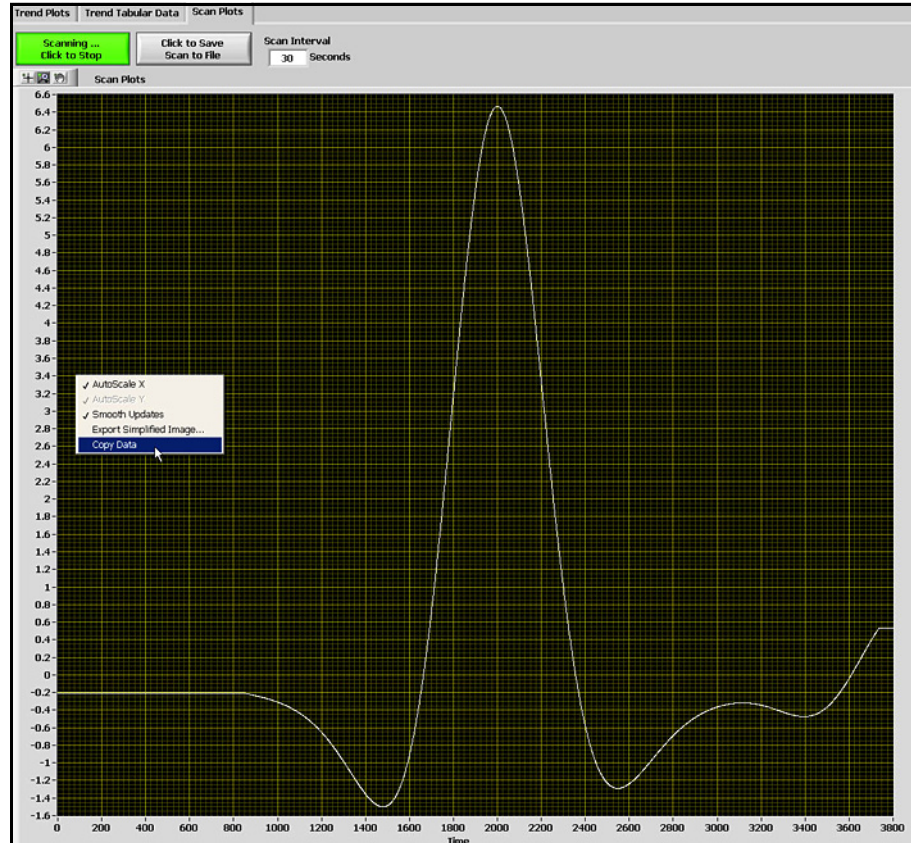
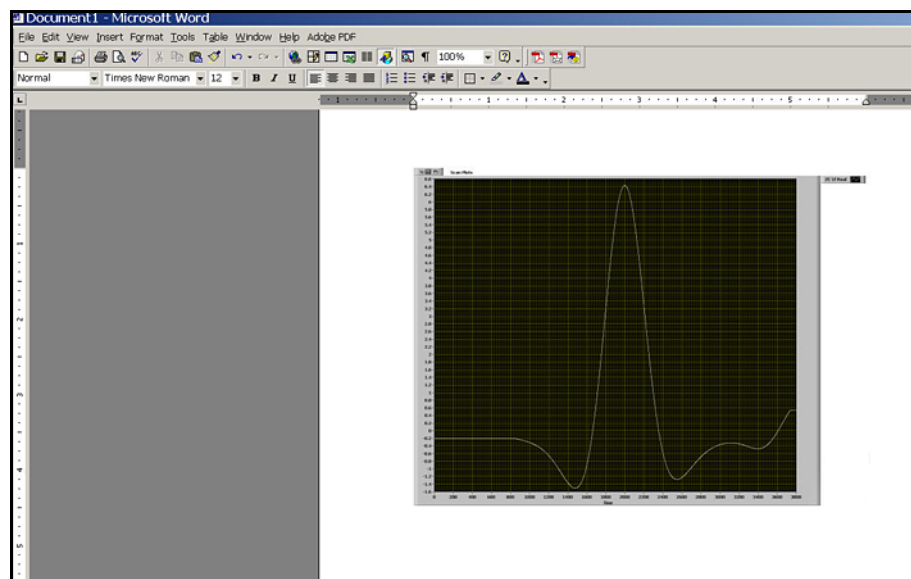

Figure 72: Copying a Trend Plot
Figure 73: Pasting a Trend Plot
- Copying and Pasting a Trend Plot can be done from **AuroraView** (see *Figure 72* and *Figure 73* below) One way to do this quickly is to simply right click over the data area and choose Copy. In another application, like Microsoft Word, simply paste.